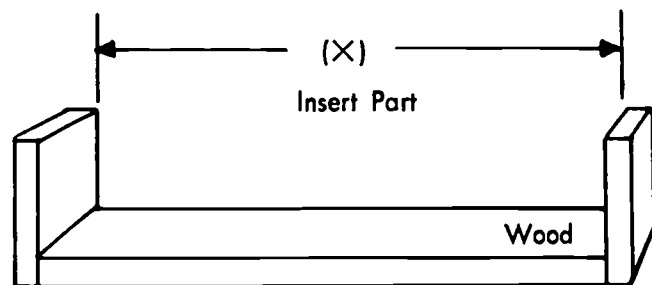

Fig. 37-1. Go-No Go Gage for Quality Control
4. Look at Figs. 37-1 to 37-6 and select a device that can be used best with your component.
6. Draw a circle around the dimension number that the device must check. This is the (X) dimension as in Figs. 37-1, 37-2, 37-3, and 37-6.